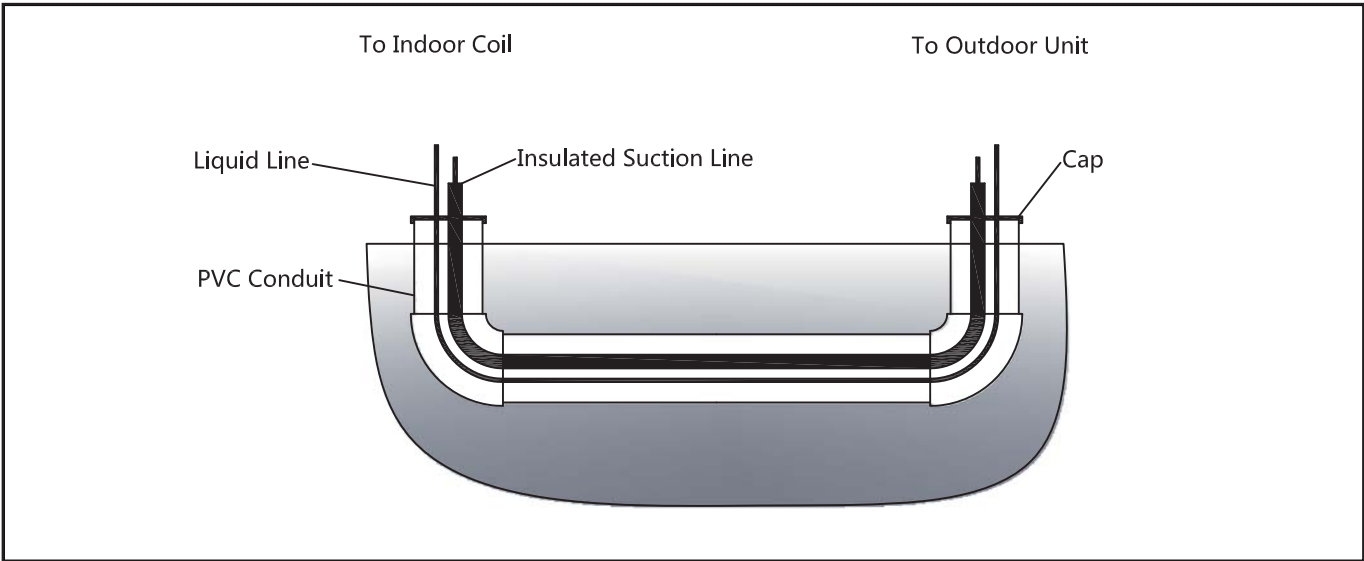

Figure 15
- Use PVC piping as a conduit for all underground installations as shown in Figure 15. Buried lines should be kept as short as possible.